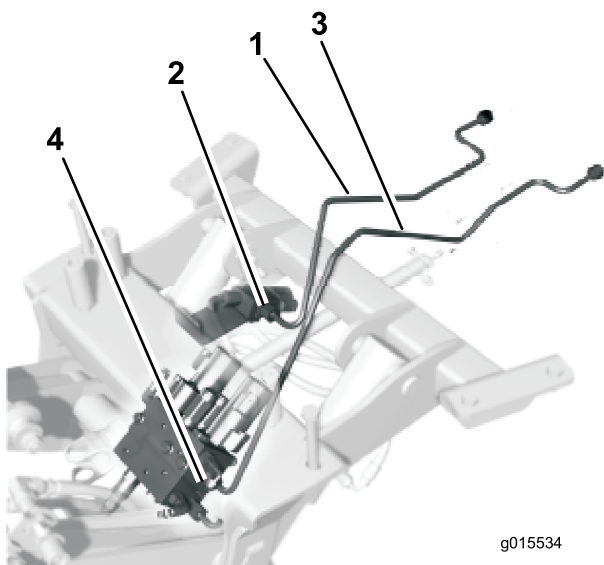

Figure 4
1. Loosely install the shorter hydraulic tube to the straight fitting on the valve (Figure 4).
2. Loosely install the longer hydraulic tube to the straight fitting on the manifold (Figure 4).
2. Guide the shorter hydraulic tube assembly (Figure 4) around and above the traction control rod.